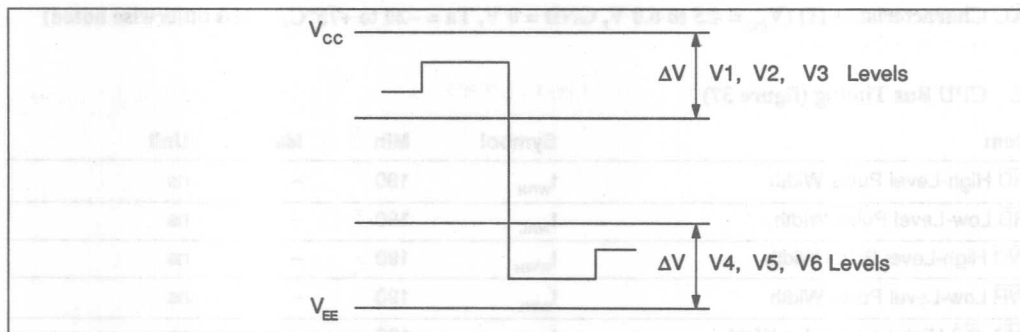

Figure 36 Driver Output Waveform and Voltage Levels
4.  $\Delta V = 0.35 \times (V_{CC} - V_{EE})$ . For levels V1, V2, and V3, the voltage employed should fall between the  $V_{CC}$  and the  $\Delta V$  and for levels V4, V5, and V6, the voltage employed should fall between the  $V_{EE}$  and the  $\Delta V$  (figure 36).